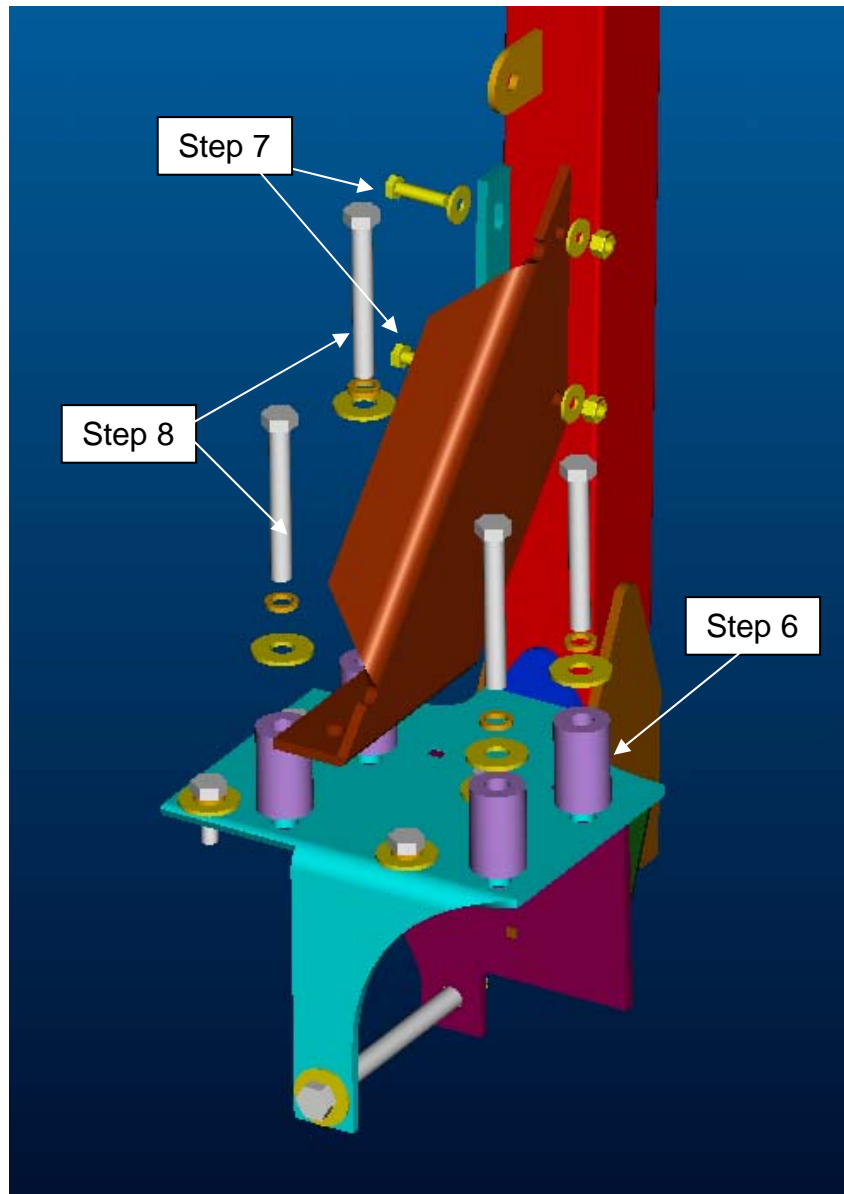

Figure 2
6. Place (4) 9/16 x 2" bushings (supplied by Fredricks equipment part # FB-100) on top of rollbar mounting plate over non-used holes then place fender on bushings (do not use rubber bushings). Insert (2) outside M12 x 95mm long, (2) 1/2" lock washer, and (2) 1/2" flat washer on each leg. See Figure 2.
8. Install (2) remaining M12 X 95mm long, (2) ½" lock washers, (2) ½" flat washers through gusset, fender, bushing, mounting plate, and into axle housing on each legs. See Figure 2.